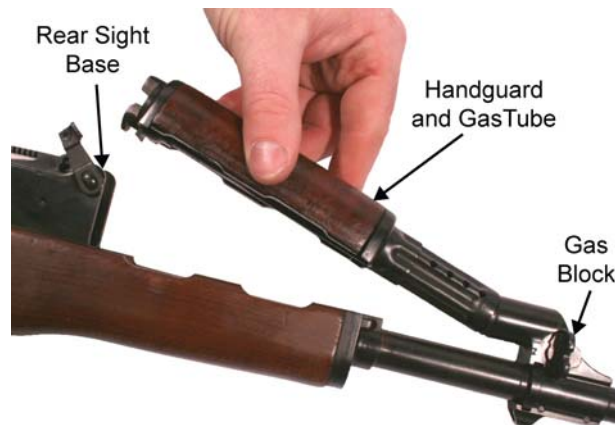

Figure 16. Inserting the Gas Tube.
- a. Insert the front of the of the gas tube in the gas block with the locking lever in the up position. Refer to Figure 16.